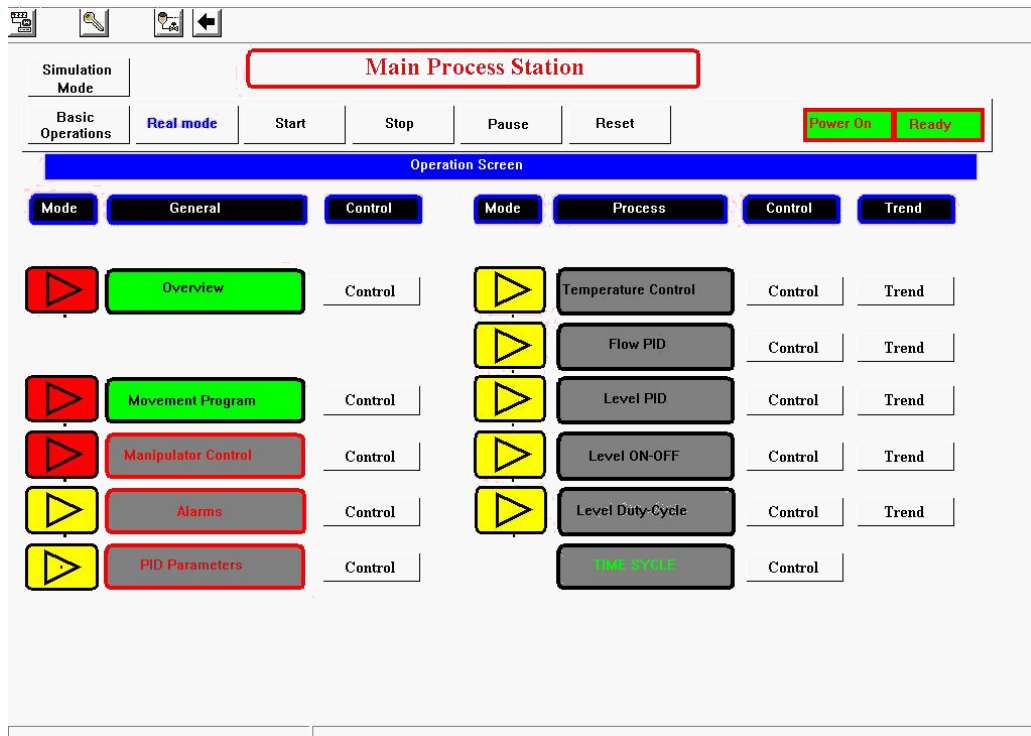

Figure 166: Main Process Station
- Click **Restart**. The Main Process Station window (shown in Figure 166: Main Process Station) is displayed in the background. Click **Close** to close the Vuniq Application Manager window.
3. Select **Operator Screens**. The Main Process Station window is displayed, as shown in, Figure 166: Main Process Station.
8. Click the  icon to return to the Main Process Station window (shown in Figure 166: Main Process Station).